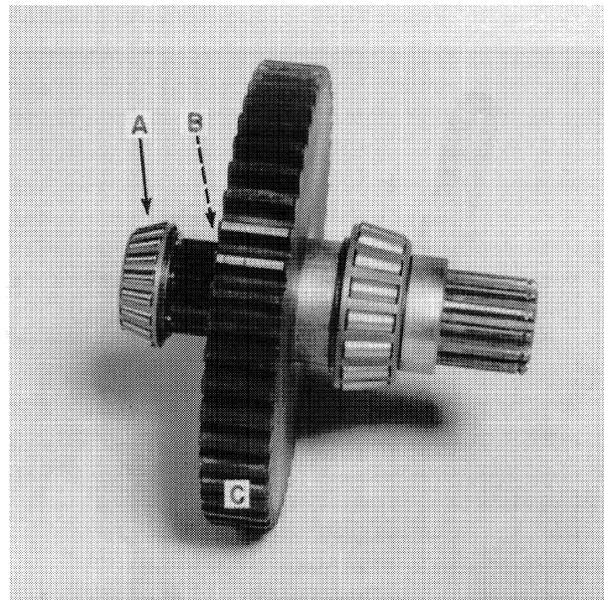

FIGURE 2-19
**OUTPUT SHAFT (Figure 2-19)**